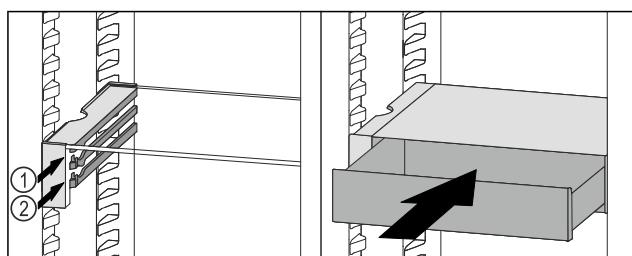

Fig. 119
- Place the VarioSafe drawer behind the stoppers on desired rib *Fig. 119 (1)* or *Fig. 119 (2)*.